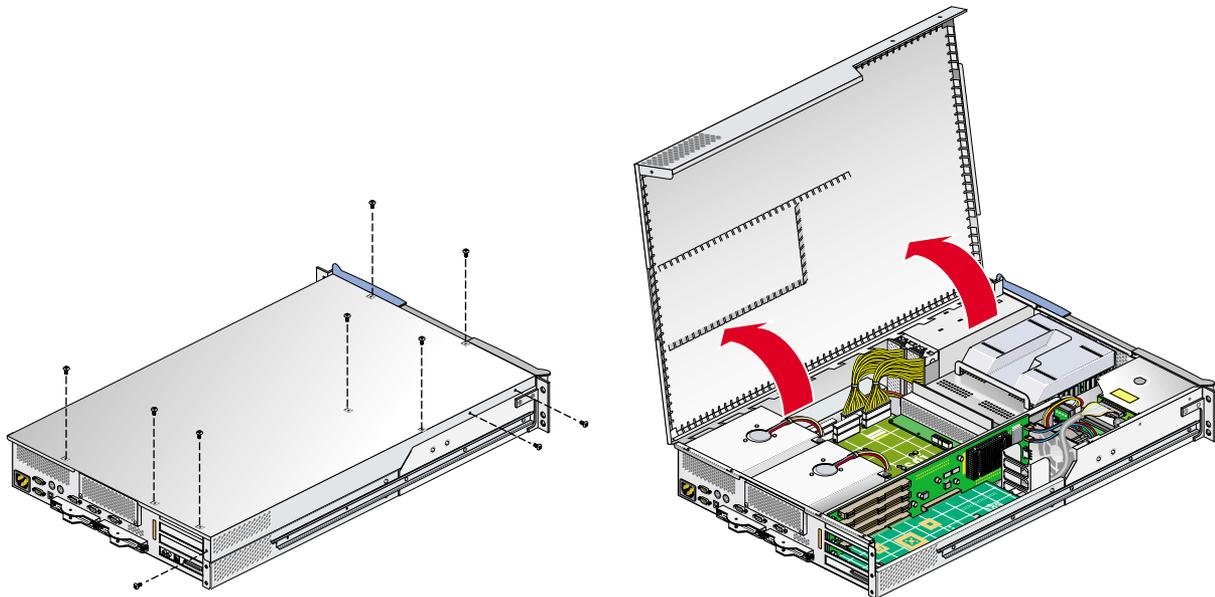

Figure 7-19 Opening the Module
6. To access the DIMMs, remove the ten Phillips screws shown in Figure 7-19 and open the hinged cover.